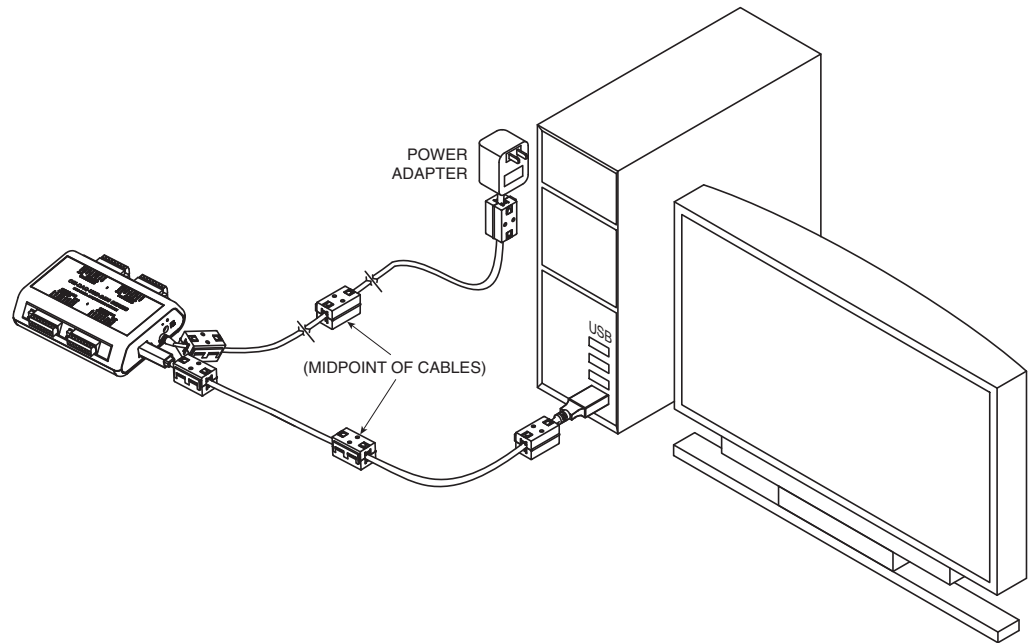

Figure 6-1. OM-DAQ-USB-2401 with Ferrite Cores Installed
The OM-DAQ-USB-2401 has been designed to meet requirements as outlined in European Community EMC Directive EN61326. Three ferrite cores are included in the OM-DAQ-USB-2401 package. When powering the unit using the adapter, the ferrite cores must be attached to both the USB cable and the power adapter to meet EFT (Electrical Fast Transient) specifications. Refer to Figure 6-1.
2. Install one ferrite core on each far end of the USB cable, and one ferrite core in the middle of the cable (as shown in Figure 6-1).
3. Install one ferrite core on each far end of the power adapter, and one ferrite core in the middle of the cable (as shown in Figure 6-1).